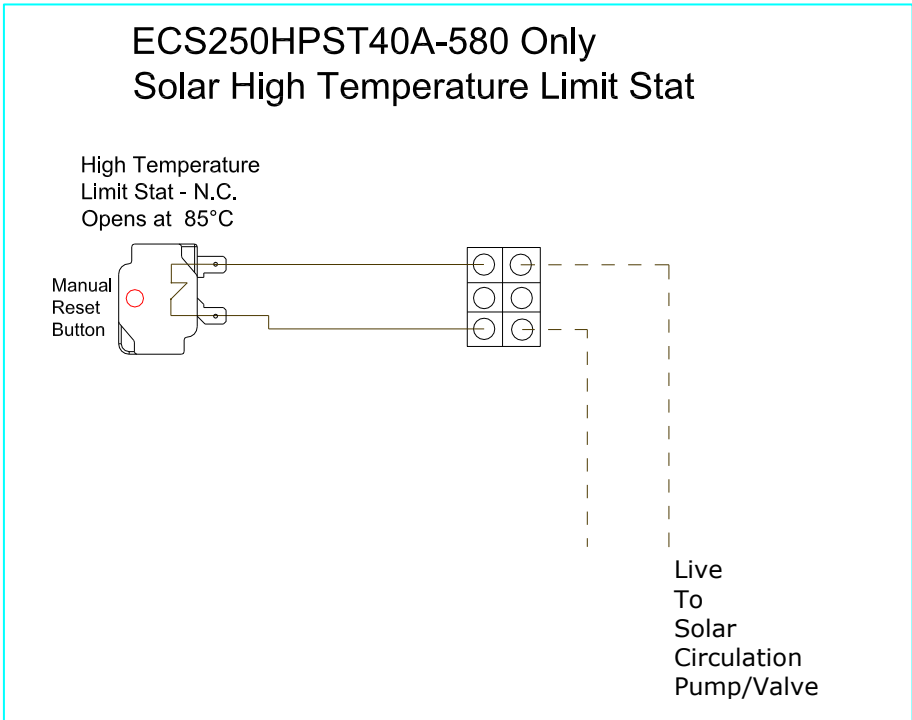

Figure 12: Solar High Limit Stat Wiring
**Step 4:** Move the sensor mounting plate back into its fixing position. Be careful not to kink the capillaries that connect the thermostat bulbs. Fit the four M5 fixing screws into the cylinder bracket (F). Tighten the screws until the thermostat bulbs and heat pump sensor are held firmly against the wall of the inner cylinder. Repeat for both positions. The solar high limit stat is also accessible at this location. Figure 12 illustrates how the connections should be made.
The DHW cylinder solar zone valve/circulation pump must be wired through the cylinder high limit stat as illustrated in Figure 12. (Applicable to ECS250HPST40A-580 only).